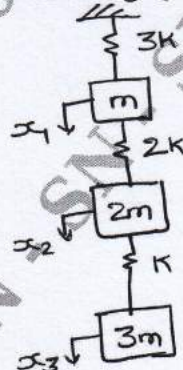

Fig.Q10(a)
- 10 a. Using Stodola's method, determine the fundamental mode of vibration and its natural frequency of the spring mass system shown in Fig.Q10(a).